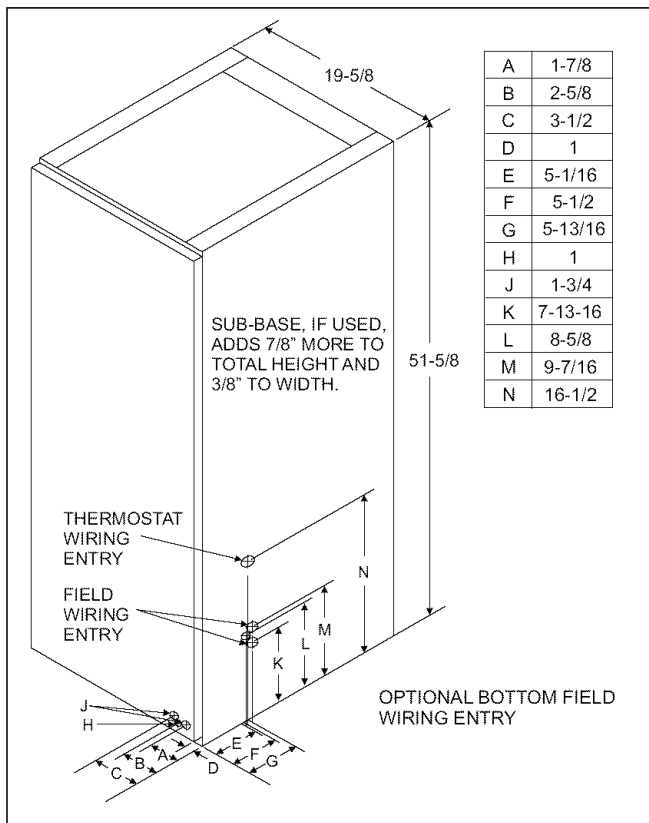

FIGURE 1 : FURNACE DIMENSIONS
5. Furnace size is the same for all models. See Figure 1.